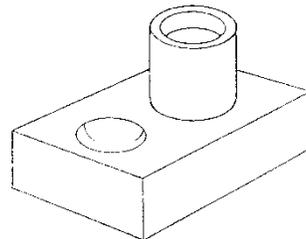

Figure 4 • Standard Sampling Cup
- Remove the standard sampling cup (Figure 4) from the sampling accessories package and clean the cup if needed.